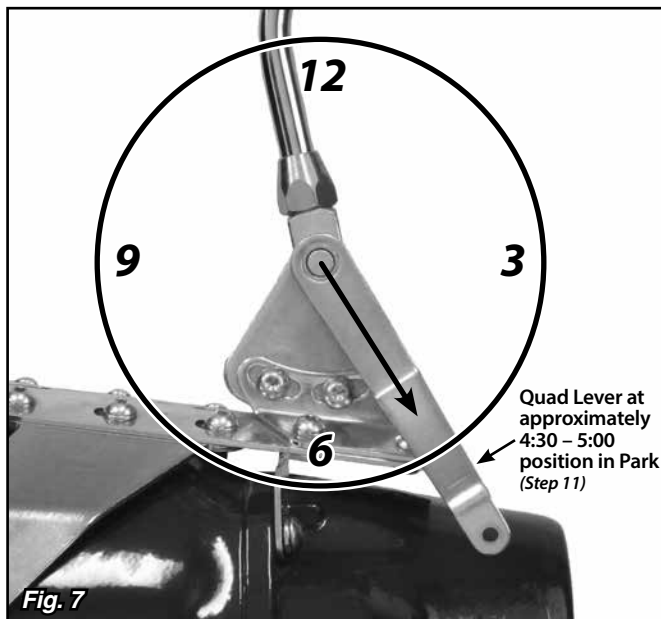

Fig. 7
Step 11: Put the shifter lever into the Park position and check the position of the quad lever. It will need to be pointing to about the 4:30 – 5:00 position. If it is not, loosen the set screw in the top of the quad lever with a 1/8" Allen wrench and slide the quad lever off of the shaft. Reposition it on the shaft at approximately the 4:30 – 5:00 position, and retighten the set screw. **Fig. 7.**